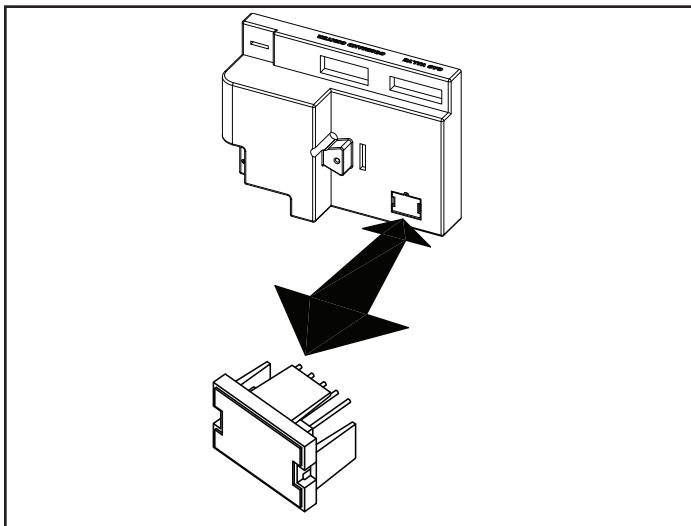

Figure 7.15 - Convert Control Box
- Convert the control box by using a small flat head screwdriver. Lift the conversion cap from the control box and replace with new one marked LP. Be sure to place correctly. Figure 7.15